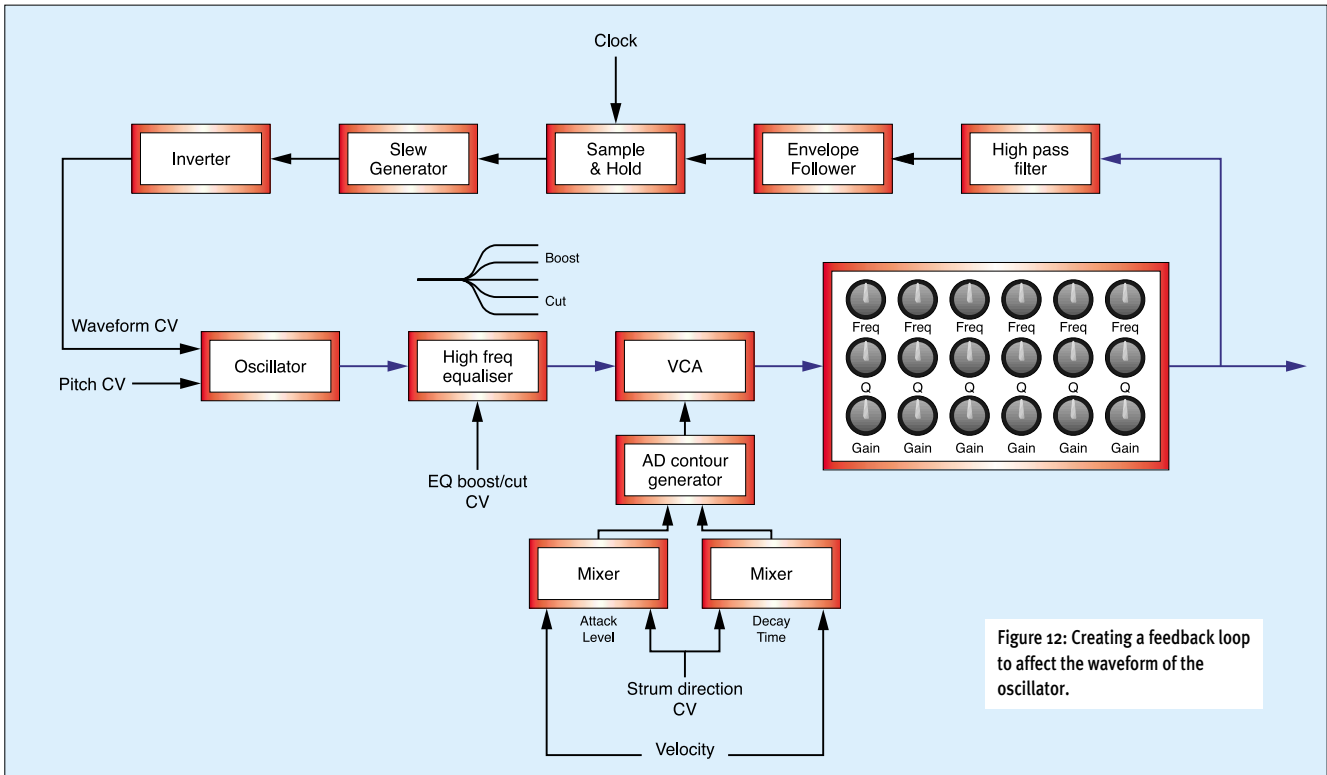

Figure 12: Creating a feedback loop to affect the waveform of the oscillator.
► right sort of timescale. Finally, we invert the output from the slew generator and apply the result to the waveform CV input of the oscillator (see Figure 12). Simple, eh?